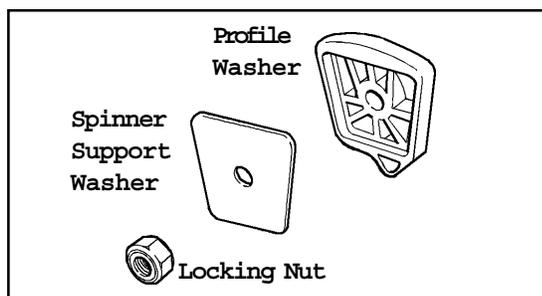

Figure 7-5
4. Remove the three locking type nuts ( $\frac{1}{2}$ " socket) securing the spin basket to the spinner assembly (Figure 7-5).